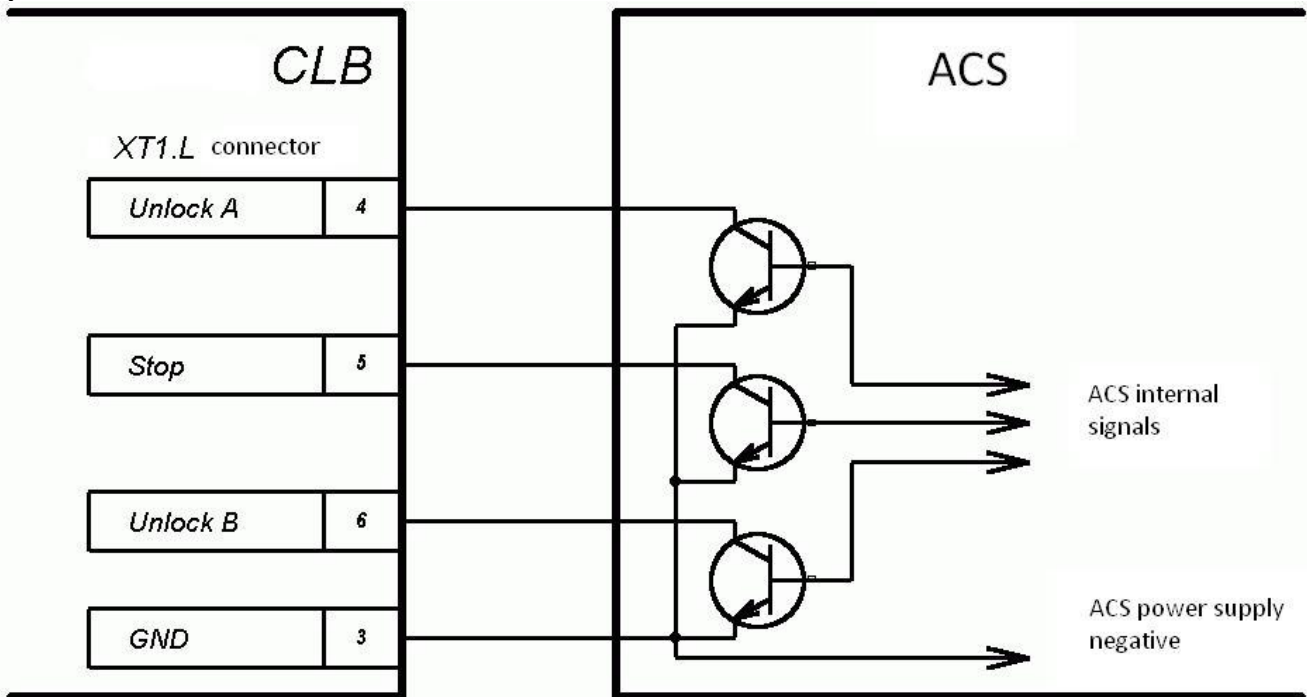

Figure 4.1 – Control elements of an external device:
6.4.2 The turnstile is operated by input of a low-level signal, relatively to the “GND” contact, to “Unlock A”, “Unlock B” and “Stop” contacts of the “XT1.L” connector block. As a control element there can be used a normally open relay contact or a circuit with open collector output at that. Emergency unblocking of the turnstile is carried out by removing of a low-level relatively to the “GND” contact signal from the “Fire Alarm” contact. As a control element there can be used a normally closed relay contact or a circuit with open collector output at that (Ref. Fig. 4.1).